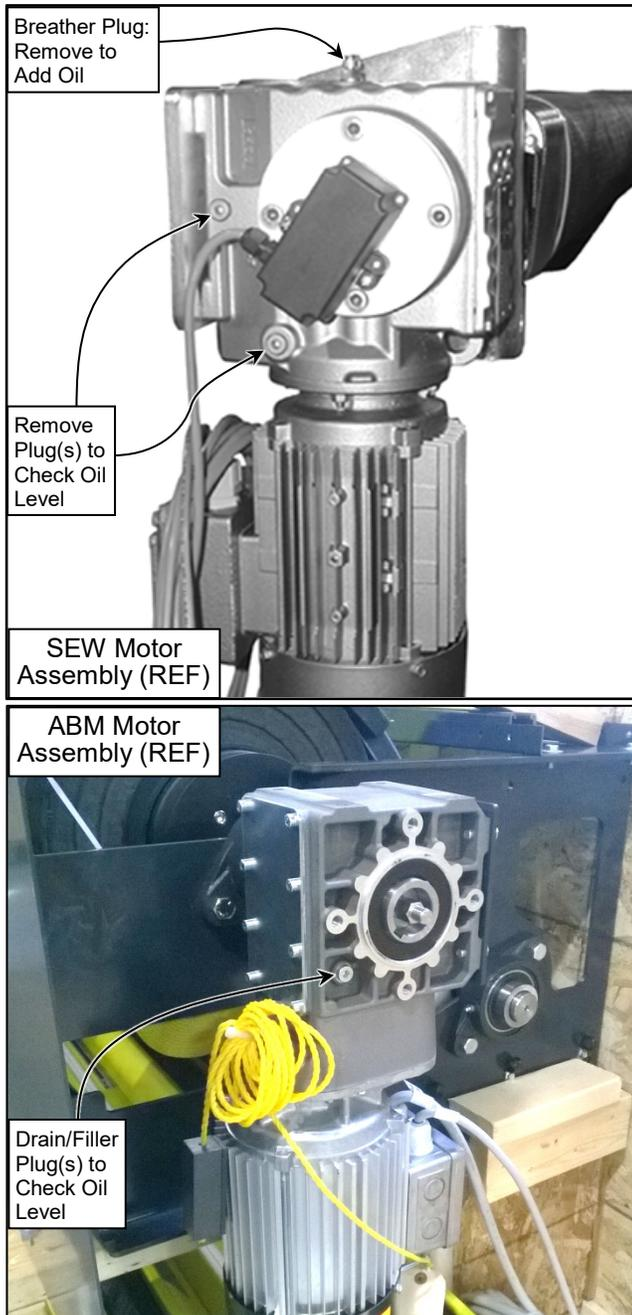

Figure 32
3. **SEW Drive Motor Gearbox Assembly:** The oil level in the SEW gearbox should be checked regularly. The oil level is checked at the plug located on the gearbox. (See Figure 32)
4. **ABM Drive Motor Gearbox Assembly:** The ABM gearbox is designed as a maintenance free sealed unit and its oil should not need to be checked. There are drain plugs on either side of the gearbox of the unit. (See Figure 32)